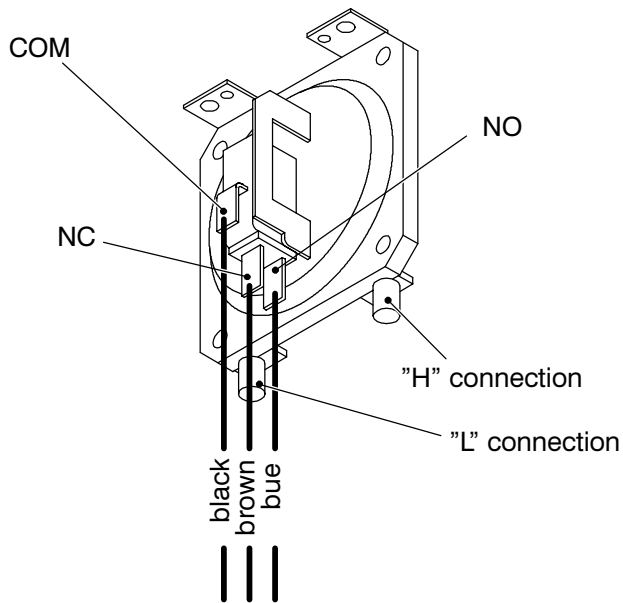
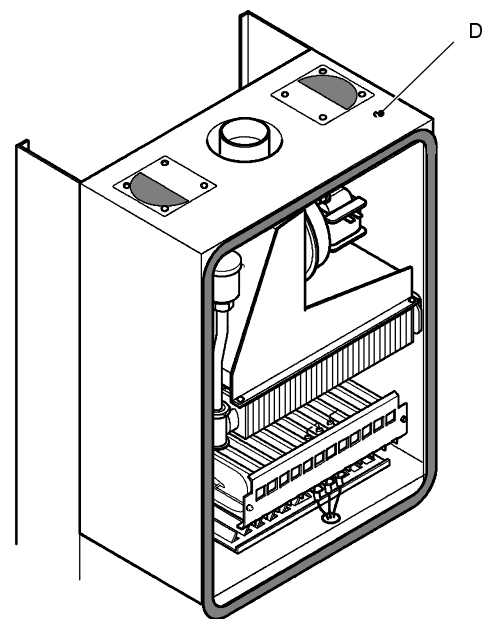

fig. 73c
fig. 75
- 4 Unscrew the screw *D* (two for the pressure switch of fig. 73c) which holds the air pressure switch to the frame (fig. 75);